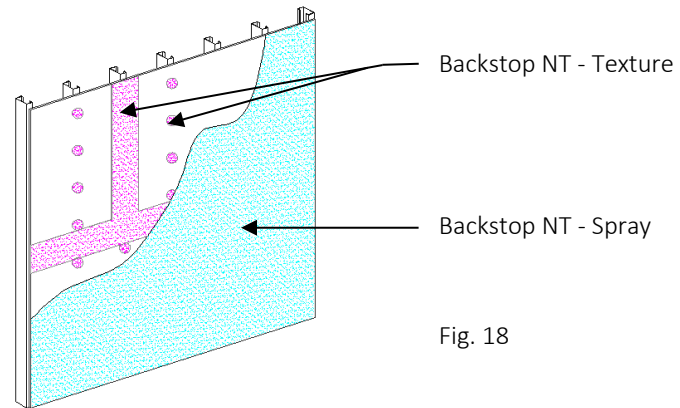

Fig. 18
- 1) Backstop NT - Spray material should be applied in a uniform, continuous film at the recommended coverage rate free of voids and pinholes – Figure 18. **NOTE: Sheathing substrates with a surface texture or high porosity will require additional material.**